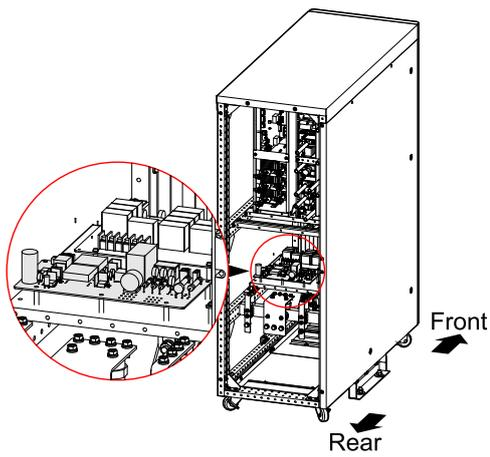
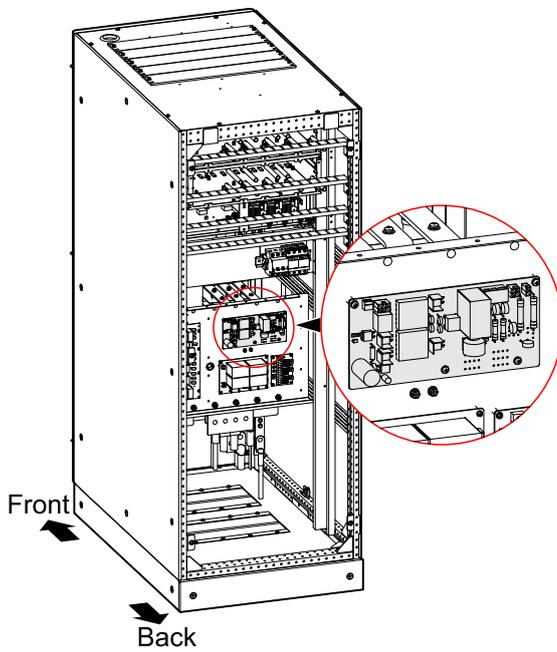

Figure3-25 Installation position of PCB for 60K, 80K, 100K, 120K
Figure3-26 Installation position of PCB for 160K, 200K
Step 1 Take out the PCB of battery release, then install it in UPS rear with five bolts M4, installation position as shown in Figure3-25, Figure3-26.